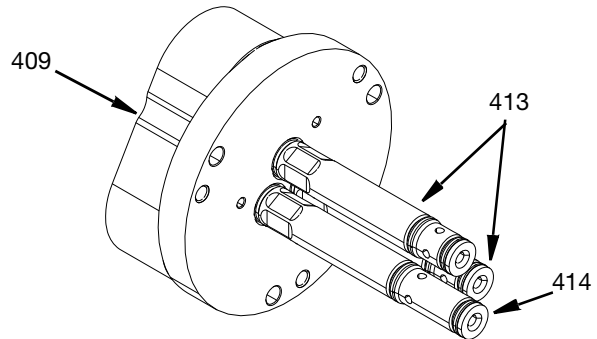

FIG. 31
5. Apply a single drop of medium strength thread locker to the threads of the short and long bearing seal guides (413 and 414) and screw into the air cylinder housing (409). Torque to 15 ft-lb (20.34 N•m) See FIG. 31.